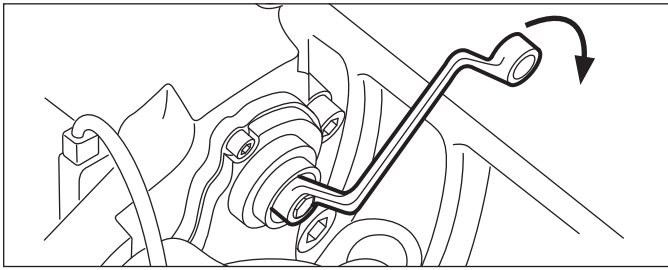

Figure 40 – Running Clearance Adjustment
- 5.2.18 Using a 10mm., six-point box wrench, turn the Shear Adapter (61) **clockwise** until the pads contact the rotor. Note: Do not use an open-ended wrench as this may damage the adapter. (See Figure 40).